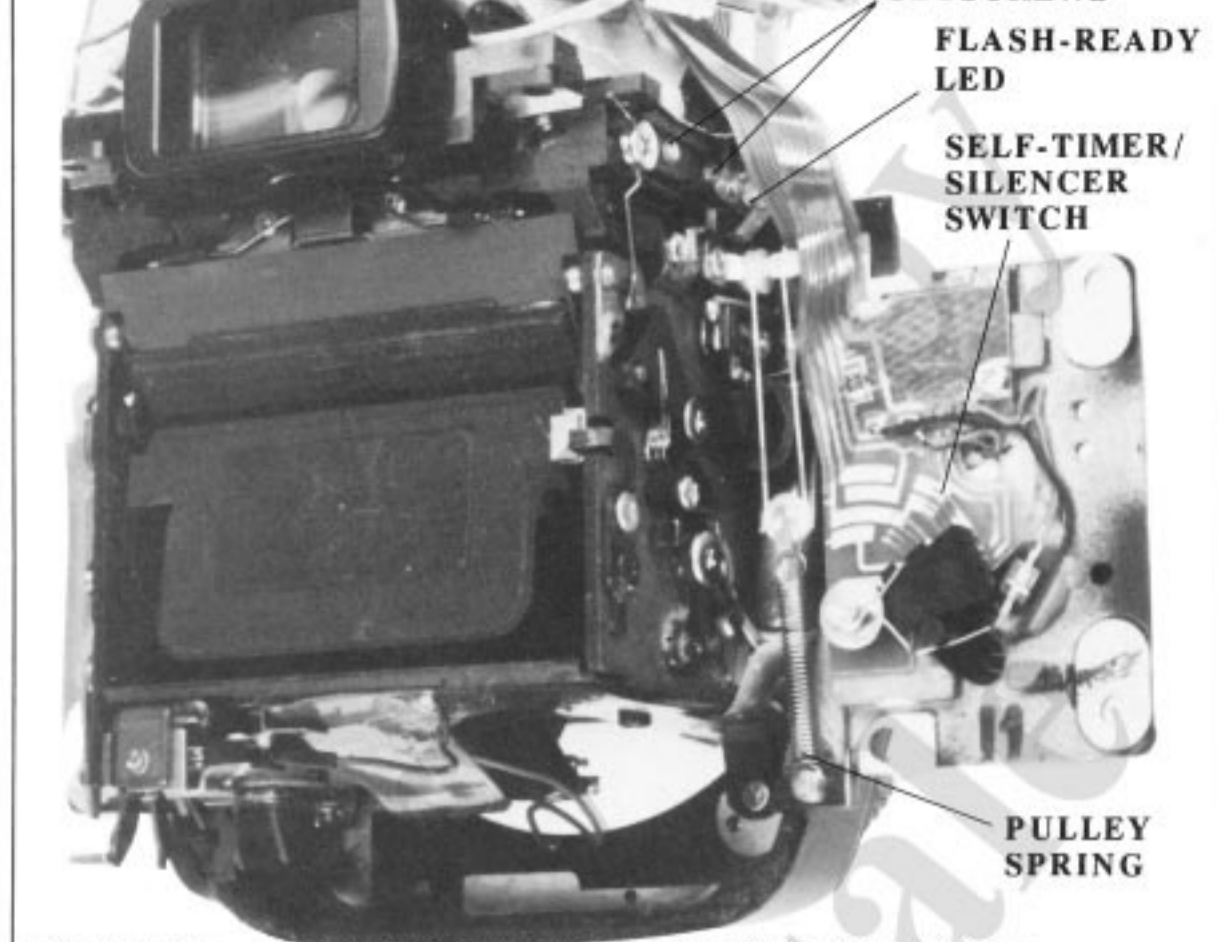

FIGURE 9 - BACK VIEW OF MIRROR BOX, WIND SIDE
4. SW104. FP switch, side of mirror box, Fig. 9. Closes when the mirror rises, connecting the anode of the SCR to ground. The SCR can then switch on when it gets the gate signal.
5. SW105. Piezo (silencer) switch, back of front plate, Fig. 9. When SW105 is closed, the piezo buzzer connects to
6. SW201. Self-timer switch, back of front plate, Fig. 9. When closed, SW201 connects CPU pins 20 to 26. The CPU then selects the self-timer mode when the main switch closes.